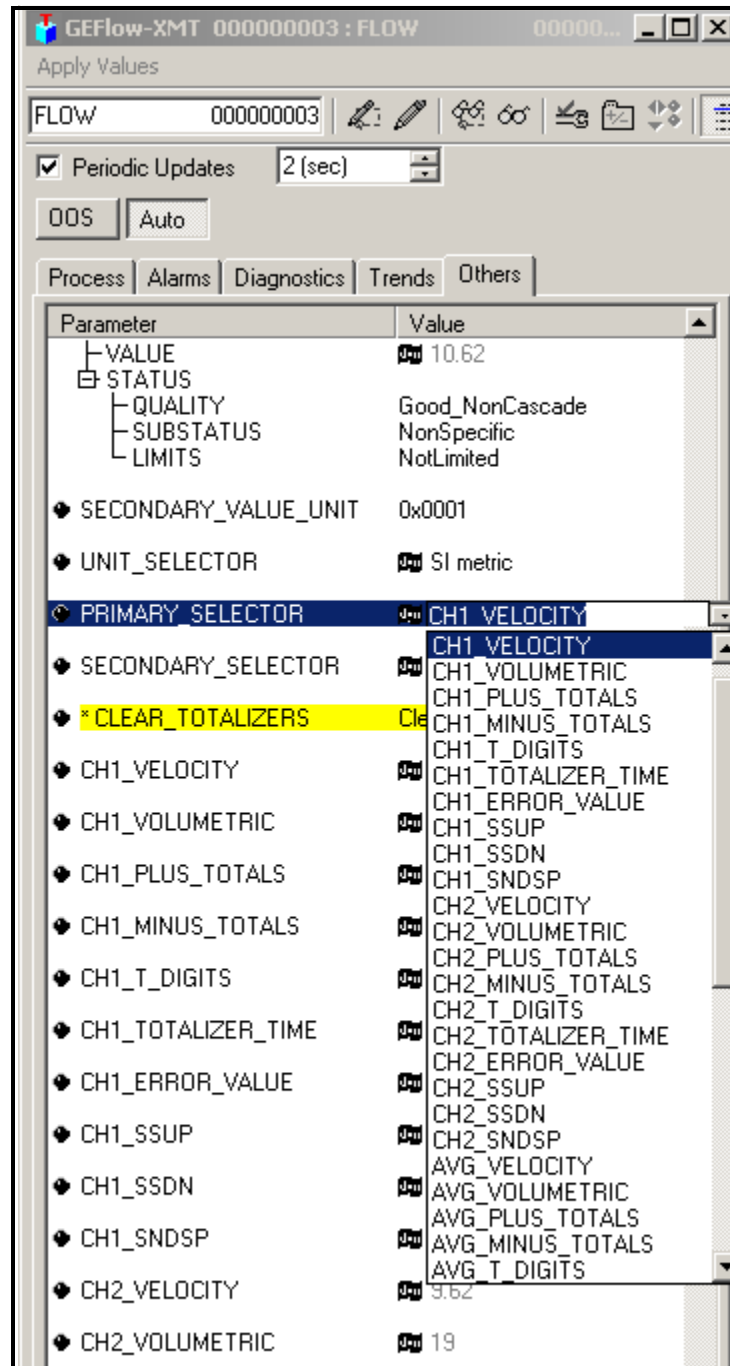

Figure 49: Primary Selector Drop Down List
2. Select the **Others** tab and open the drop down list for the PRIMARY\_SELECTOR and SECONDARY\_SELECTOR (refer to Figure 49 on page 63).
3. Choose the unit from the list (see Figure 49 on page 63).